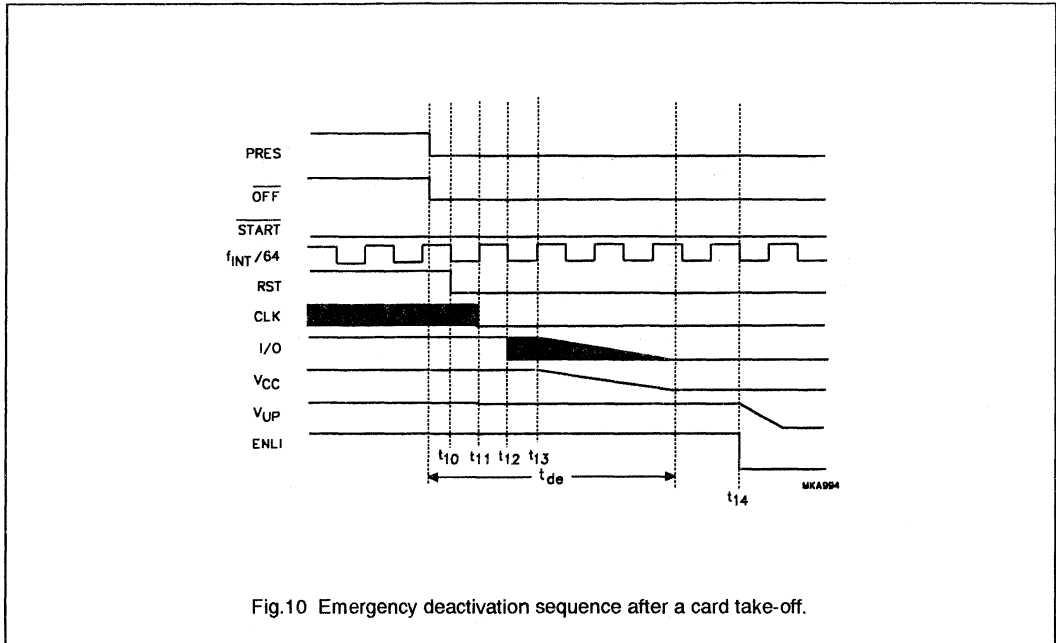

Fig.10 Emergency deactivation sequence after a card take-off.
**Deactivation sequence** (see Fig.10)